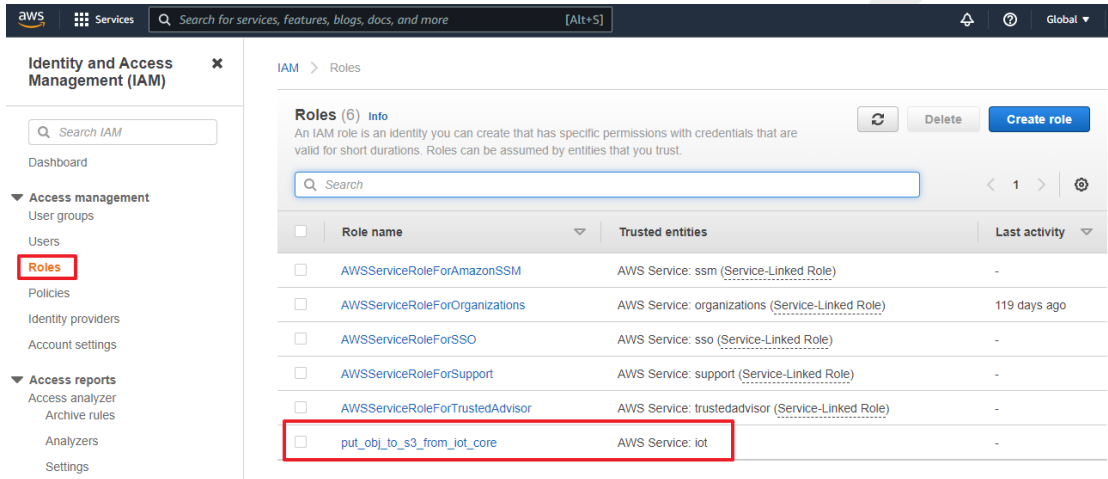

Figure 4-147 Check IAM Role
10. Upon accessing the IAM entry point, expand the "Access management" section on the left-hand side of the dashboard and click on "Roles." Here, you will be able to see the Role that was created earlier (as shown in Figure 4-147).